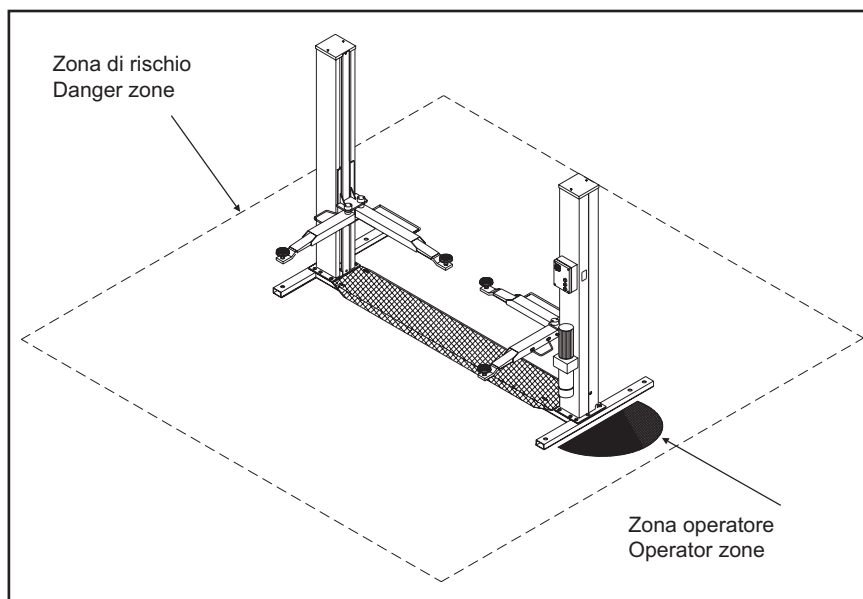

Fig.15 Zone di lavoro
È estremamente importante che in fase di salita o discesa l'operatore agisca soltanto dalla postazione di comando indicata in fig.15. È vietato a chiunque sostare entro la zona di rischio indicata in fig.15.
During lift and descent movements, the operator must remain in the command station as defined in figure 15. The presence of persons inside the danger zone indicated in the same figure is strictly prohibited. The presence of persons beneath the vehicle during operations is permitted only when the vehicle is parked in the elevated position.
Fig.15 working area
- si rispetti la zona di rischio durante il sollevamento (fig.15)
- people rest outside the danger zone while the vehicle raising (fig.15)